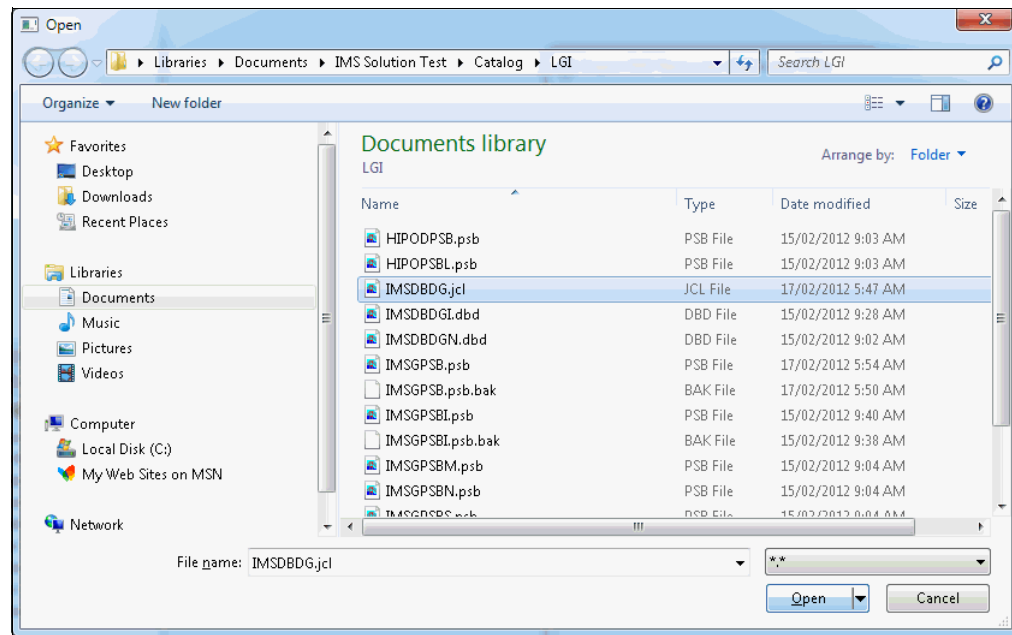

Figure 8-24 Select the file that contains the resources to be imported
6. Select the file that contains the DBDs to be imported, as shown in Figure 8-24. In this example, multiple DBDs are in a JCL file that was previously downloaded to the local workstation. IMS automatically filters out the JCL and imports each of the DBDs in the file.